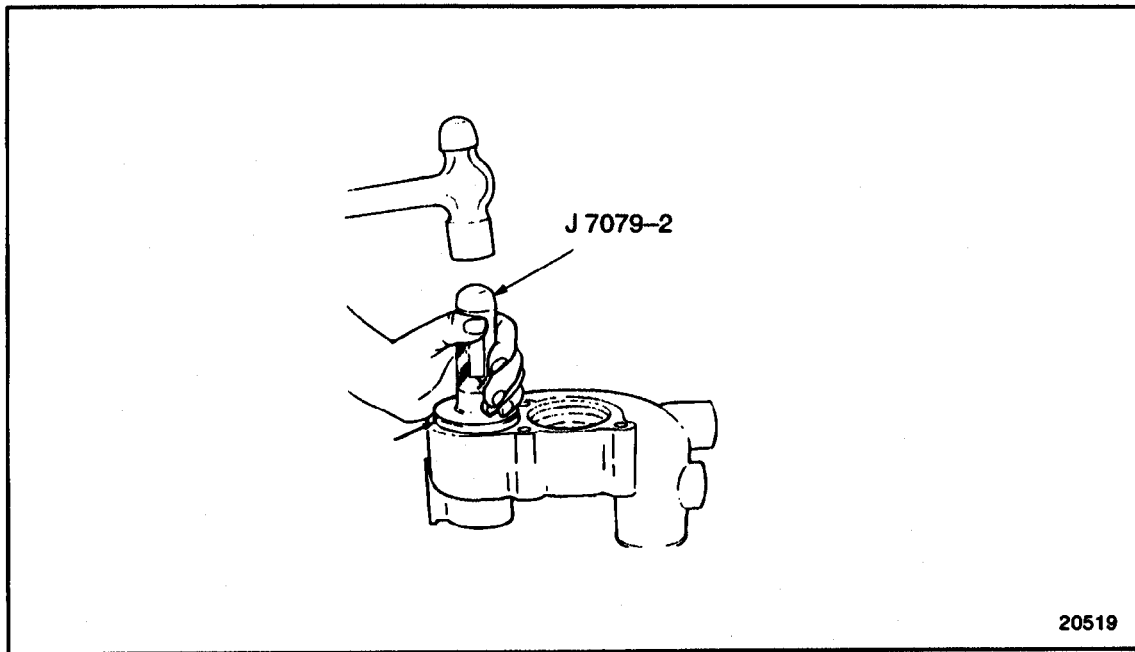

Figure 4-78 Thermostat Housing Seal Installation
4. Drive the seal into the bore with a hammer, until the installation tool bottoms on the housing. Rotate the tool during installation to ensure the seal is installed straight. Remove tools J 7079-2 and J 8550. See Figure 4-78.